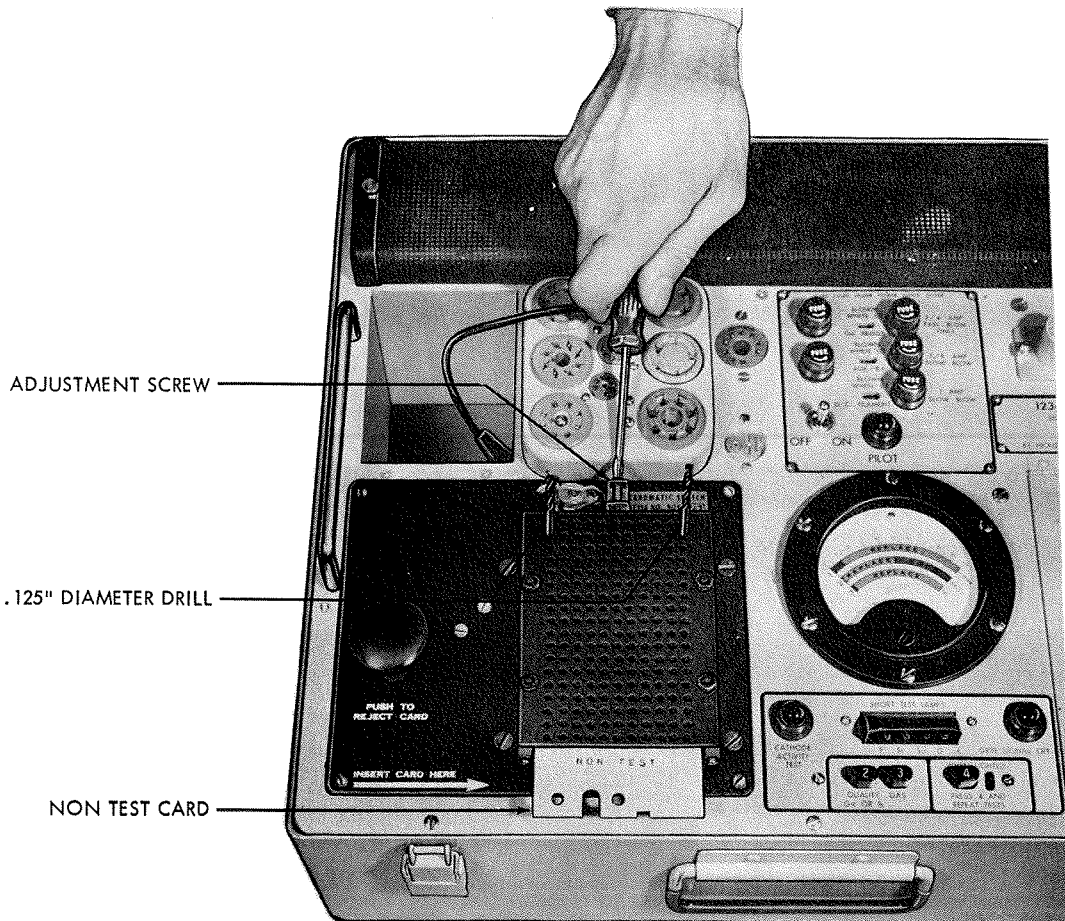

Figure 17 - Adjustment of Upper Micro Switch
4. Adjust the micro switch inward (toward the card switch) with the adjustment screw (see Figure 17), until the micro switch actuates (an audible CLICK can be heard).